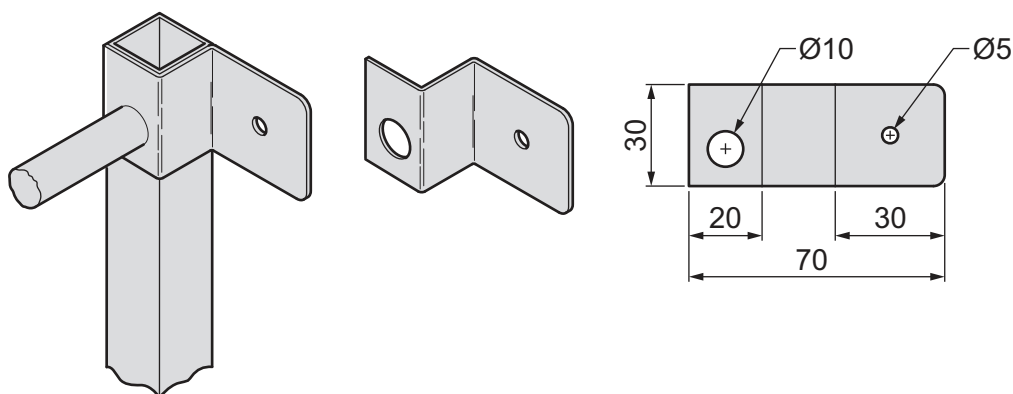

Fig. 13.3
- (d) Fig. 13.3 shows details of one of the brackets that will allow the adjustable shelf unit to be fixed to a wall. The brackets, made from mild steel sheet, fit around the mild steel tube when the parts of the end frames are assembled.